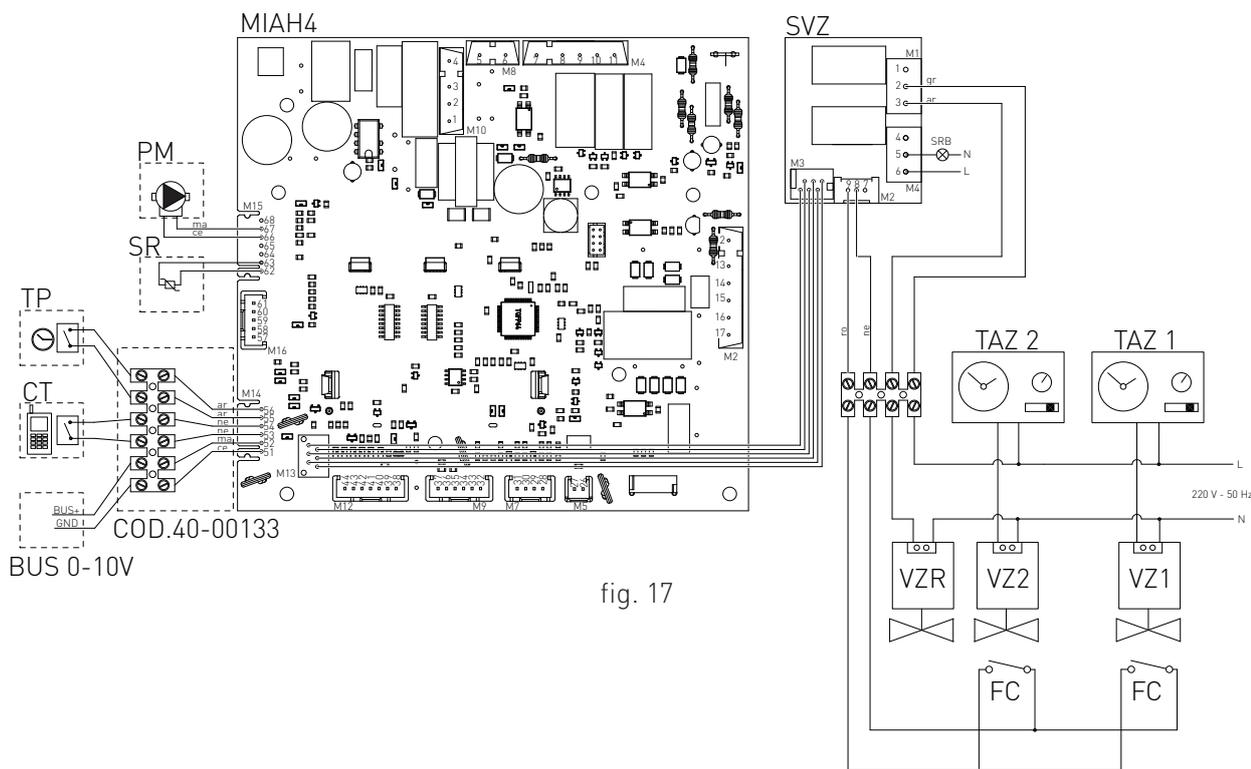

fig. 17
- (PM) MODULATING PUMP
- (TP) DOMESTIC HOT WATER PRE-HEATING DEACTIVATION TIMER
- (CT) TELEPHONE DIALER
- > After removing the crankcase, connect the items below to the electronic board (see fig. 17):